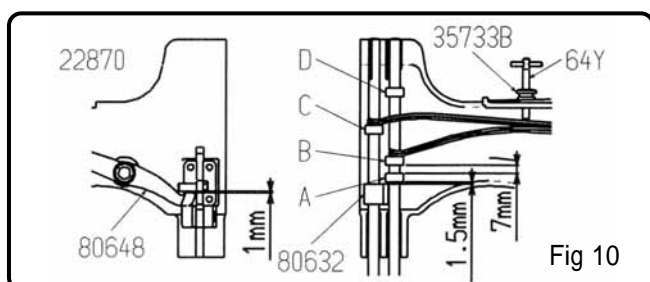

Fig 10
1. Adjust and set the presser bar holder (80632) so that the clearance between the presser lifter lever (80648) and the presser lifter pin (22870) is 1mm, as shown in (Figure 10).
4-8 押工金の調整 Fig. 10
b) 押工圧の調整 Fig. 10